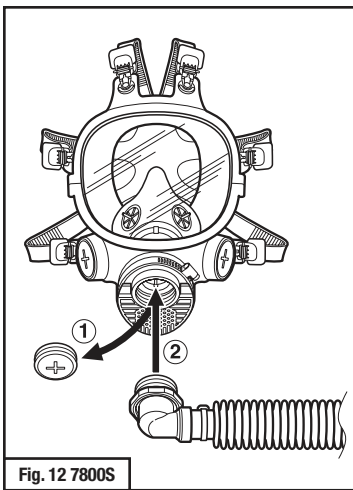

Fig. 12 7800S
- Remove the 3M™ Gasket Valve Plug 7890 from the **center port** of the full facepiece respirator (Fig. 12 and 13).
4. Screw GVP-123 breathing tube elbow adapter into the center port of the facepiece inlet of the respirator (Fig. 12 and 13).